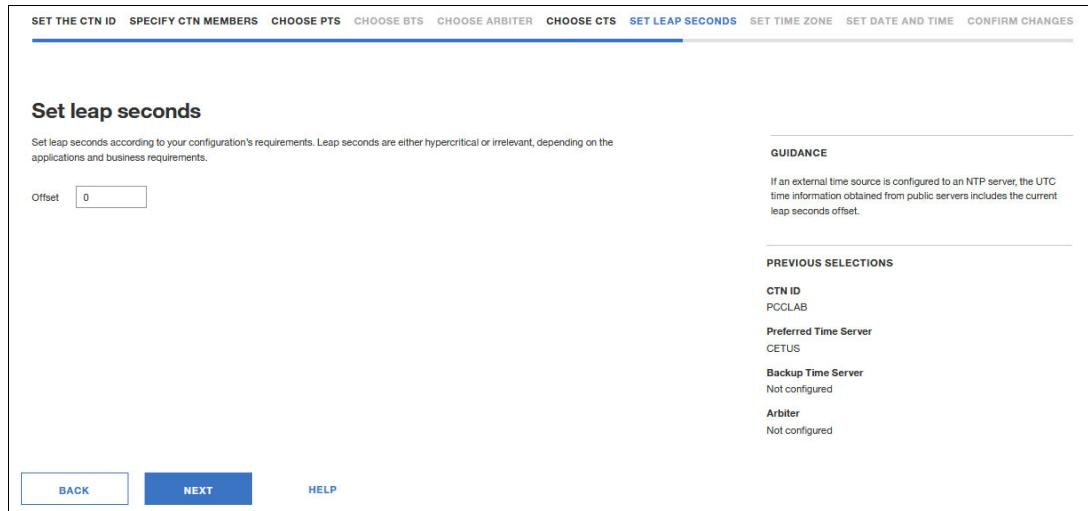

Figure 8-38 Adjust leap second offset
7. The **Adjust leap second offset** window opens. Define the applicable value here, then click **NEXT** to continue (Figure 8-38).